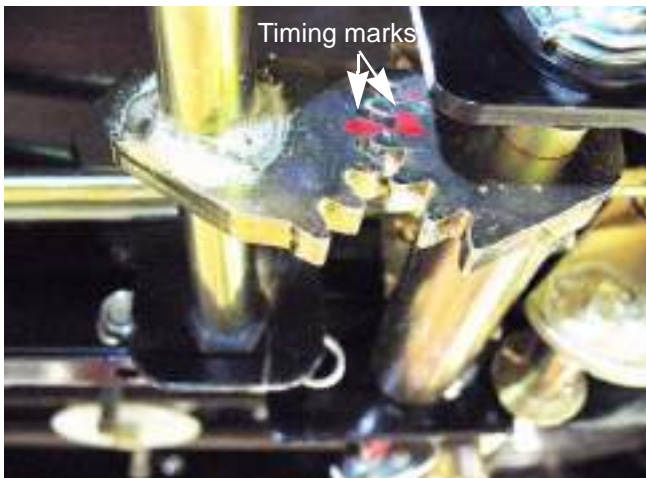

Figure 5B.42
- One mark on the fourth valley from the valley of the main drive shaft gear. See Figure 5B.42